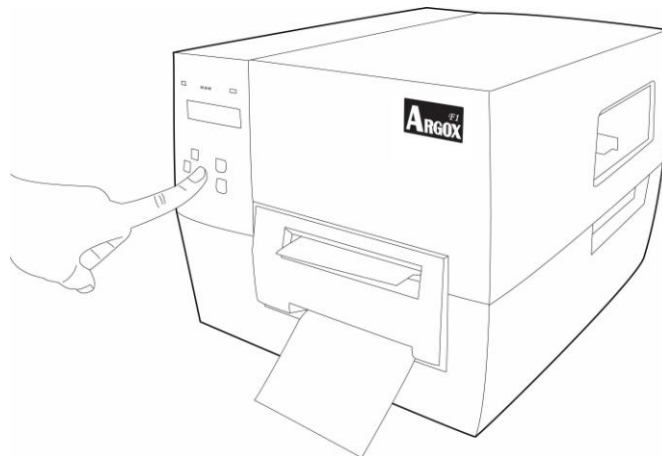

Figure 21
6. Close the top cover and turn on the printer or press the “FEED” button if the printer is already on. (Figure 21)